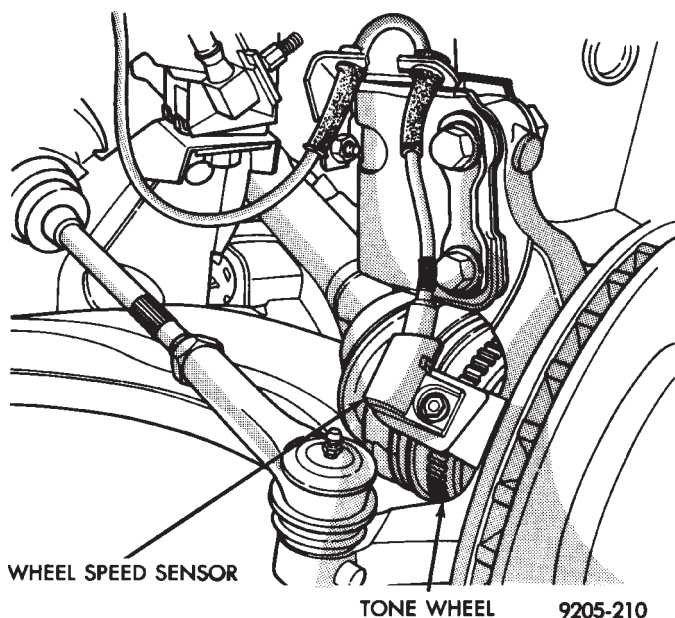

Fig. 4 Front Wheel Speed Sensor
One Wheel Speed Sensor (WSS), is located at each wheel (Figs. 4, 5 and 6) and sends a small (AC) electrical signal to the control module (CAB). This signal is generated by magnetic induction. The mag-
The front Wheel Speed Sensor (Fig. 4) is mounted to a boss on the steering knuckle, for both the Front Wheel Drive and All Wheel Drive applications. The Tone Wheel is part of the outboard constant velocity joint housing.